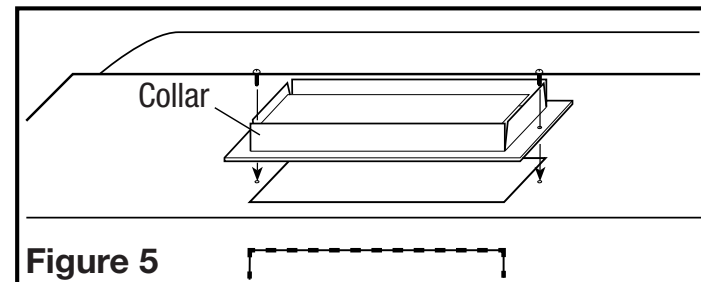

Figure 5
7. Install the duct collar to the hood by placing the collar over the opening and securing with the two provided screws. Using approved duct tape, tape around the collar to seal off any air leaks (**Figure 5**).